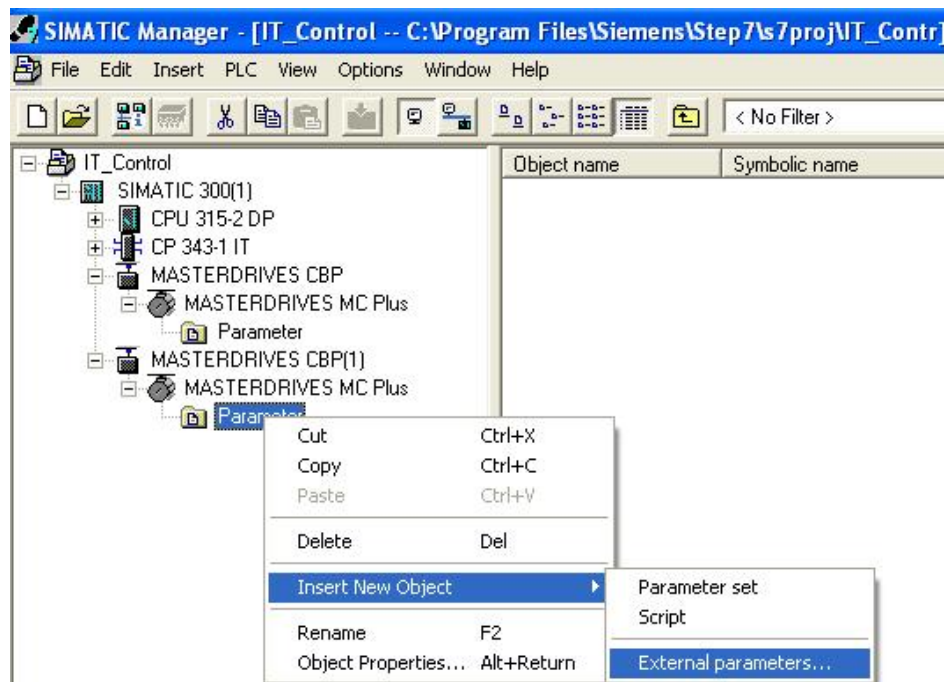

Figure 7.15 Project insert parameter set
In this case the PROFIBUS is going to be used for connection, and then the Drive monitor is going to be opened through S7-Project. As it is seen in Figure 7.15 on the top; there are two ways to connect to the CPU; PROFIBUS or MPI, and one way to the DP slaves, PROFIBUS. Please see the Appendix 1 for hardware configuration and building as S7 project. In order to open Drive Monitor:
- Right click on the parameter folder → Insert New Object → Parameter set or External parameters (see Figure 7.15). If it is the first time that device been connected, there are no parameter sets have been saved, and then chose “Parameter set” menu.